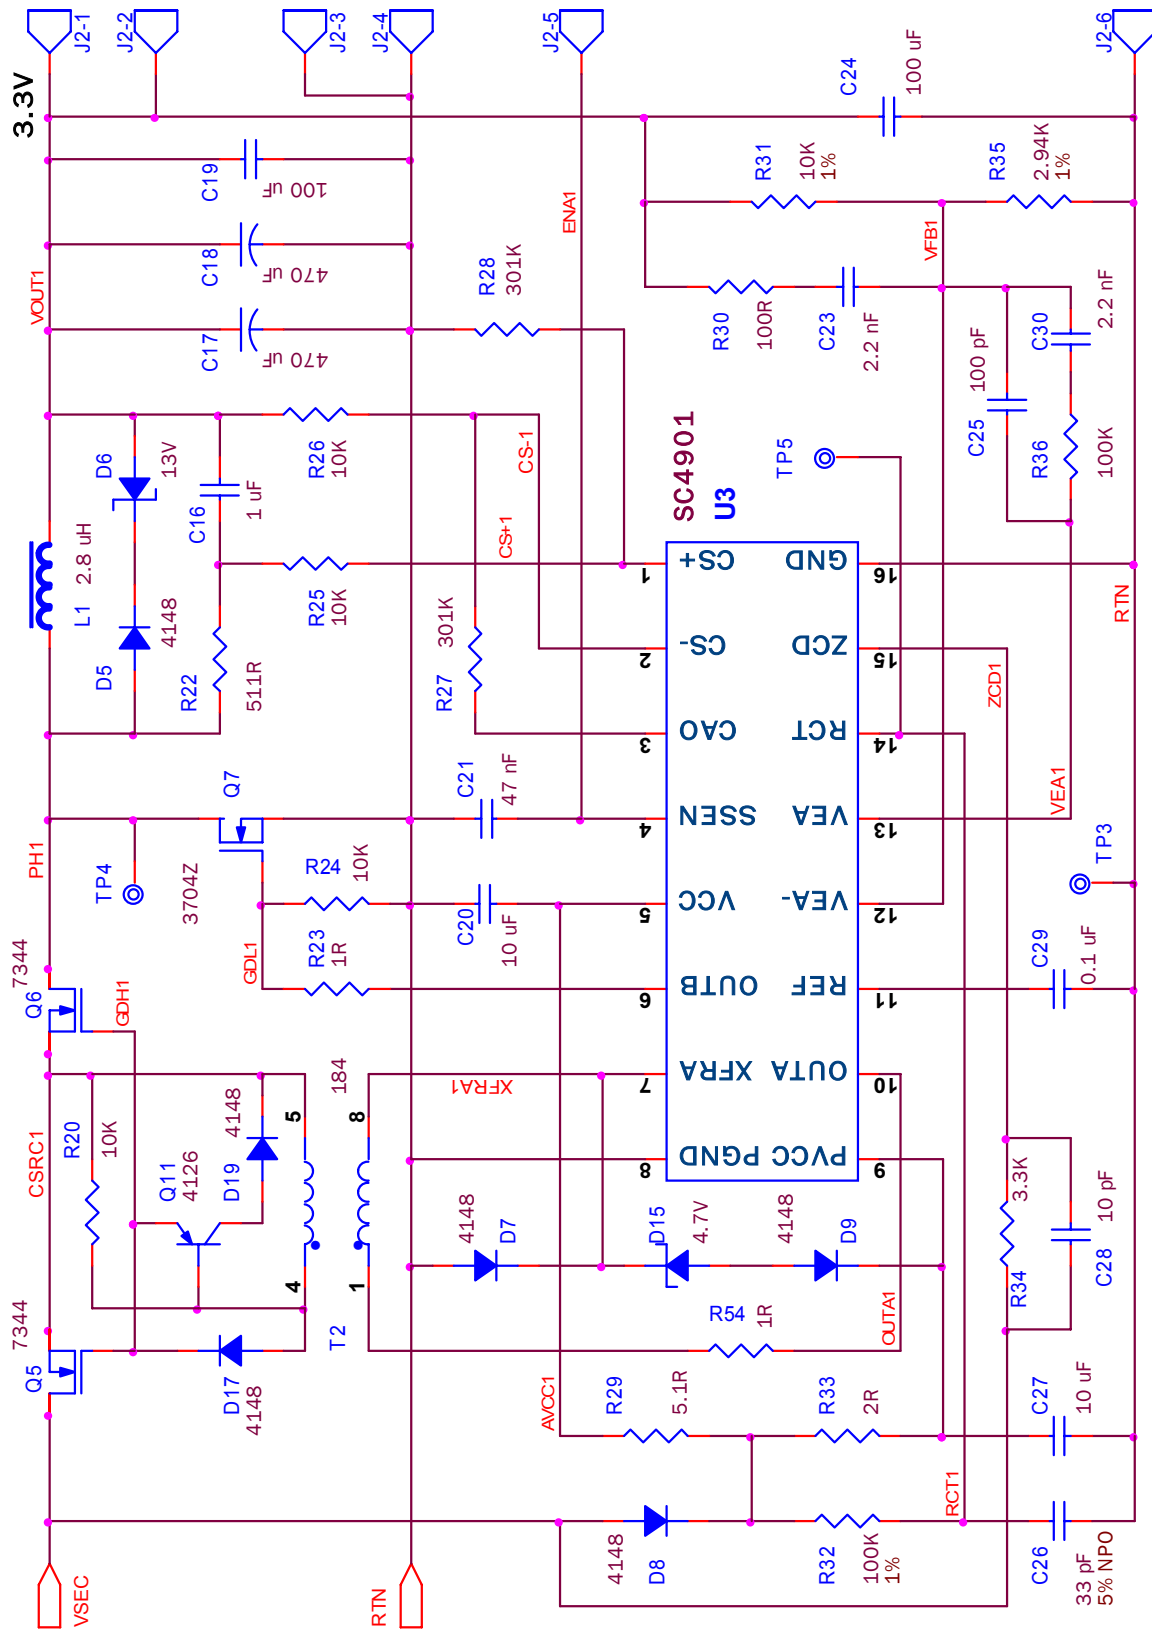
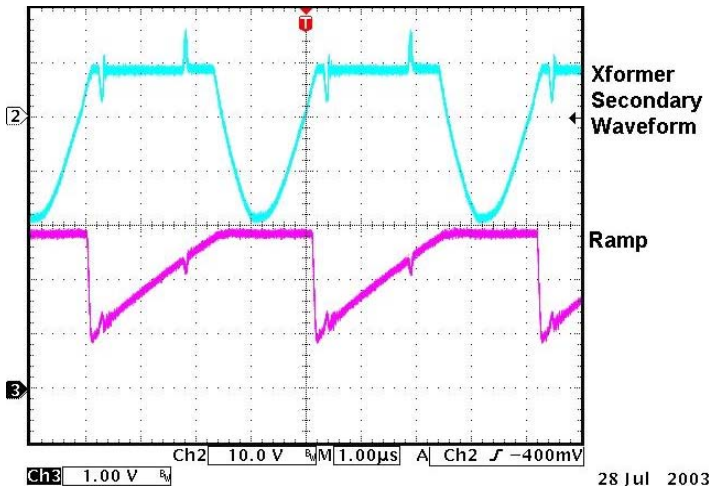
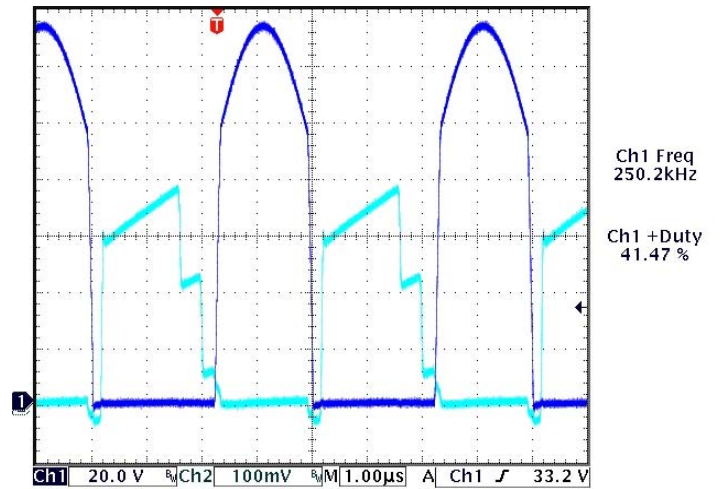

Fig 4) Complete secondary side schematic for a 3.3V/10A output.
Fig 5) Transformer secondary voltage and ramp at RCT pin
Fig 8) Primary MOSFET waveforms Drain to Source Voltage (Blue) and Current (green) .
The complete schematic of a secondary channel delivering 3.3V/10A is shown in Fig 4). Typical waveforms are shown in Figs 5) to Fig 8). These waveforms were taken on a dual output converter with 48V input and a transformer turns ratio of 6:1. Both outputs were generated off a single secondary winding. The primary topology was a free running, active reset, forward converter operating at 225 kHz. Volt second control was implemented using input feedforward with a maximum duty ratio of 65% at 40V input. The two outputs were rated at 3.3V/13A and 2.5V/13A for a total of 75W power. Of special interest are the primary side waveforms shown in Fig 8). The zero current turn on can be clearly seen. During turn off, the current decreases as 2.5V forward FETs turn off first, followed by 3.3V output. The last small step at final turn off represents the magnetising current in transformer primary.
g) The no load condition at the output needs special consideration in this topology. Under light load, the inductor current is negative as in any synchronous rectifier. When the synchronous MOSFET QR is turned off, the current is interrupted and tends to charge the drain source capacitor of QR. The back to back connected forward FETs prevent this current being returned to the source. The resulting overshoot on QR can be clamped by connecting a zener and diode combination across the inductor as shown in Fig 4). The zener clamp conducts *only* during the dead time and also provides a small benefit of reducing the voltage across the forward FETs during turn on. The detailed application schematic in Fig 4) shows diode D1 and zener D2 connected across the output inductor L1 to reduce the no load spike.